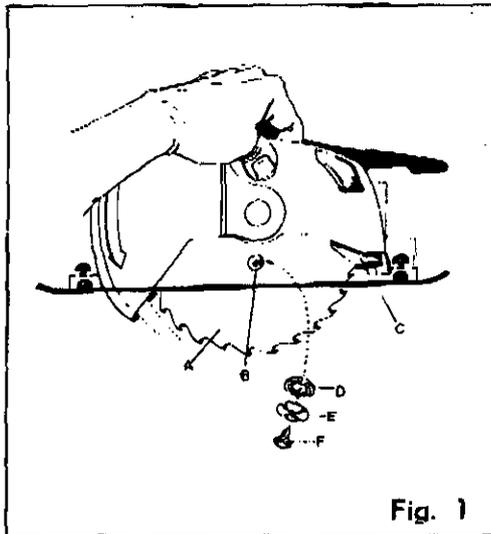

Fig. 1
BLADE CHANGE-OVER: IMPORTANT—BE SURE POWER CORD IS DISCONNECTED FROM POWER SUPPLY. (See Fig. 1) Position unit on end of motor housing and depress lock pin fully. Using wrench, Key No. 46, (See parts list, page 9) turn blade screw, Key No. 54, clockwise while depressing lock pin until pin moves into lock position. While holding lock pin, turn blade screw counterclockwise to loosen. Release lock and remove blade screw, spring washer, Key No. 56, and blade washer, Key No. 55, from spindle shaft. Wipe a drop of oil onto flange bushing and blade washer (D) where contact is made with saw blade. Position saw blade (A) inside blade guard (C) with teeth pointing upward at front of saw. Place the undercut side of blade washer (D) and spring washer (E) over shaft, insert blade screw (F), engage lock pin and tighten blade screw until spring washer is flattened. Loosen blade screw 1/6 turn or one hex with